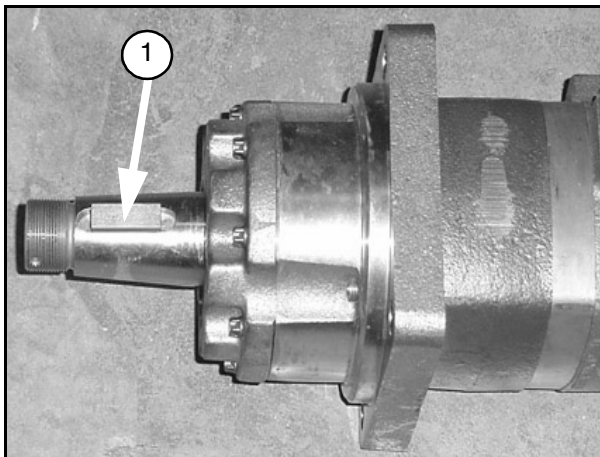

Figure 35.
1. Place the key (1) into the keyway on the motor shaft as shown in Figure 35.